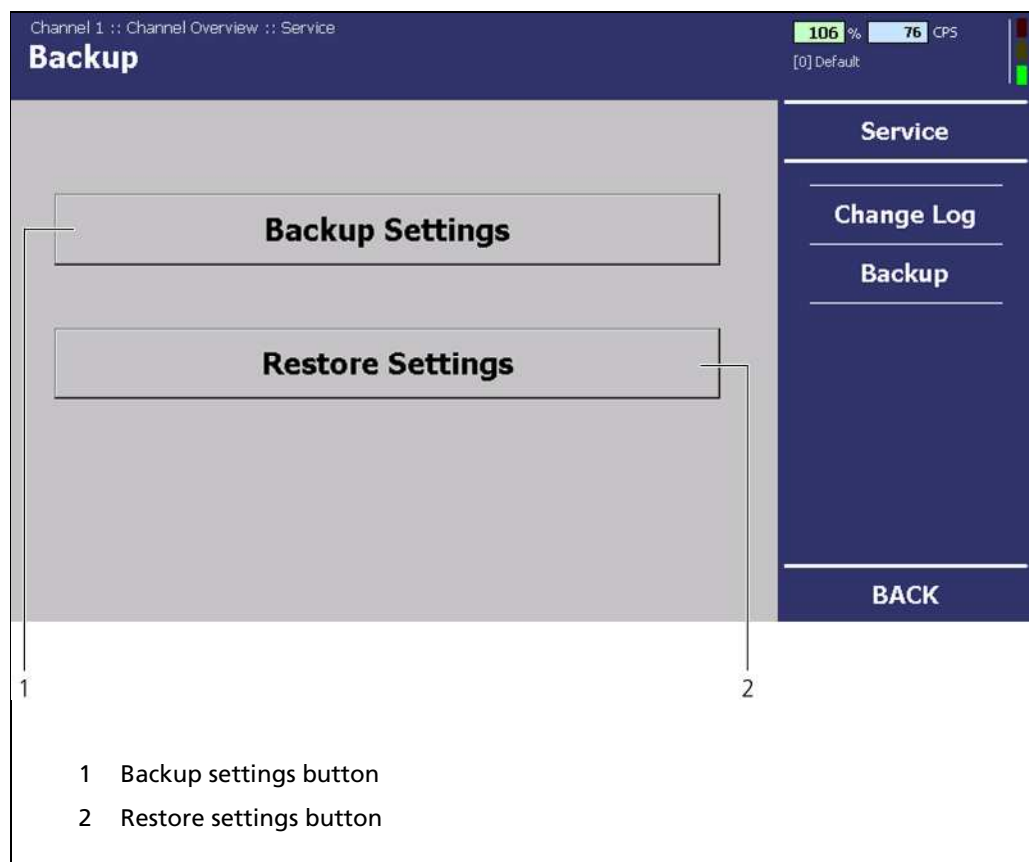

Fig. 76 "Channel Overview" Menu, Service - Backup
7. Click on <Backup Settings> Fig. 76, Pos. 1).
10. Click on <Restore Settings> (Fig. 76, Pos. 2).